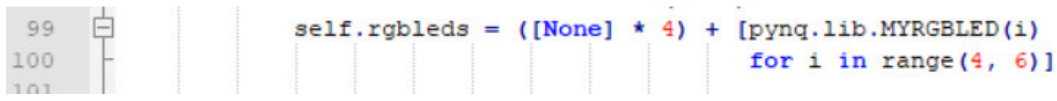

Figure 4: Editing the *base.py* driver
- Perform steps 2-6 again to make the appropriate edits to the “*__init__.py*” and the “*base.py*” drivers. This time, **DO NOT RENAME THE DRIVERS**. You need to import your new driver in the “*__init__.py*” driver and edit the line in Figure 4 of the “*base.py*” driver to use your new driver instead of the old one.